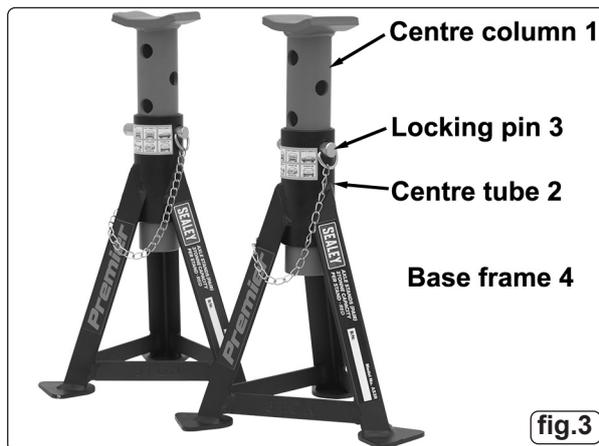

fig.3
5.1. Insert the centre column (fig 3 - 1) into the centre tube (fig 3 - 2) of base frame (fig 3 - 4).
5.2. Adjust to the required height and insert the locking pin, through the stand collar, centre tube and out of the other side (fig 3 - 4).